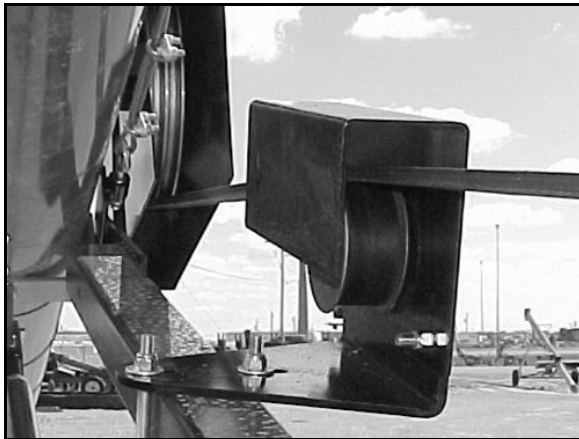

Figure 6.9 Belt Idler
9. Minor tension adjustments can be made by sliding the idler up or down. Idler shown in Figure 6.9.